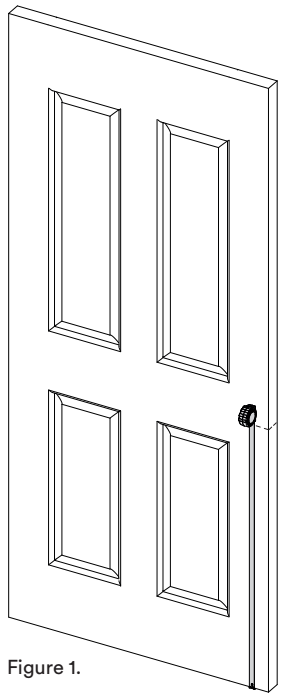

Figure 1.
- 1.2. We recommend 85mm CTC (centre to centre) under your door handle. (Figure 1.)